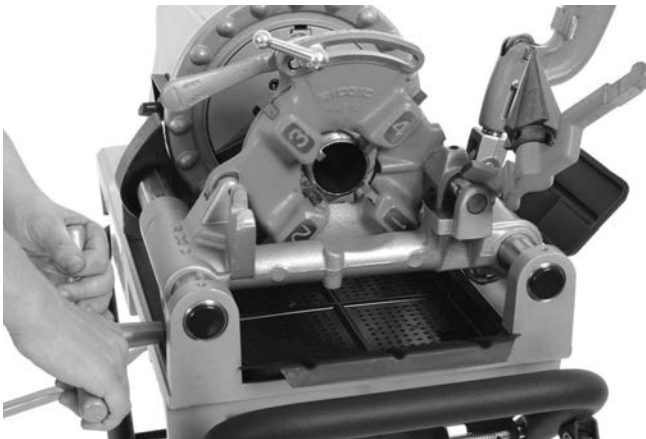

Figure 24 – Threading Pipe (811-A Quick Opening Die Head shown)
7. Turn carriage handwheel to move the die head to the end of the pipe (*Figure 24*). Apply slight force to the handwheel to start the die head onto the pipe. Once the die head starts threading the pipe, no more force is required on the carriage handwheel.